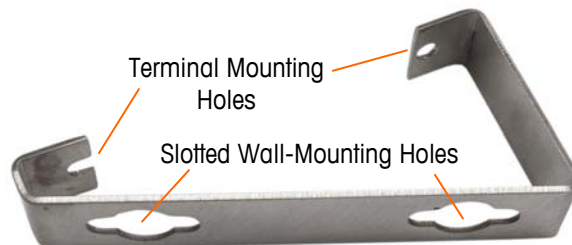
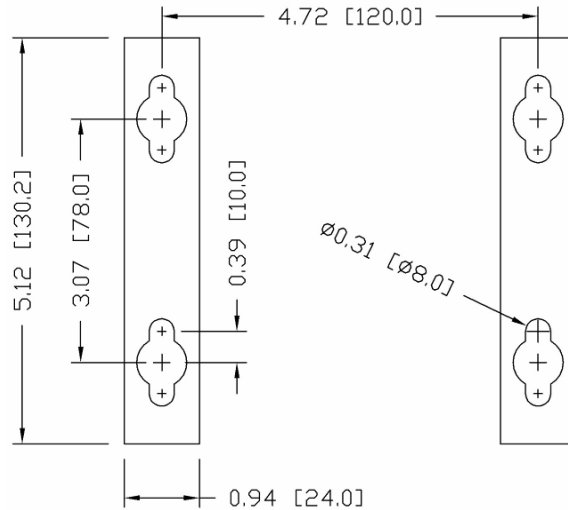

Figure 2-9: Wall-Mounting Bracket
Figure 2-11: Mounting Hole Pattern
Once the brackets are securely fastened to the wall surface, the enclosure can be mounted to them using the four supplied M5 screws. One bracket is shown in Figure 2-9, with the slotted holes indicated. The screws are tightened by fitting the screwdriver through the slotted holes.
Mark the position of the mounting holes on the vertical surface per the dimensions shown in Figure 2-11 in inches and [mm], or by holding the terminal up to the surface and marking through the bracket holes.
8. Back each bolt out enough to leave space for its head and the flat washer to engage the top center of one of the slotted holes in the mounting brackets (see Figure 2-9 and Figure 2-11).
6. Back the bolts out sufficiently to allow them and their washers to engage the top center of one of the slotted holes in the mounting brackets (see Figure 2-9 and Figure 2-11).
Install the screw and washer, leaving sufficient gap to accommodate the slotted hole in the bracket – see Figure 2-9 and Figure 2-11.
Place the holes in the terminal brackets over the fasteners, and slide the terminal down firmly so that each fastener and washer engages the slots in the bracket (see Figure 2-9).